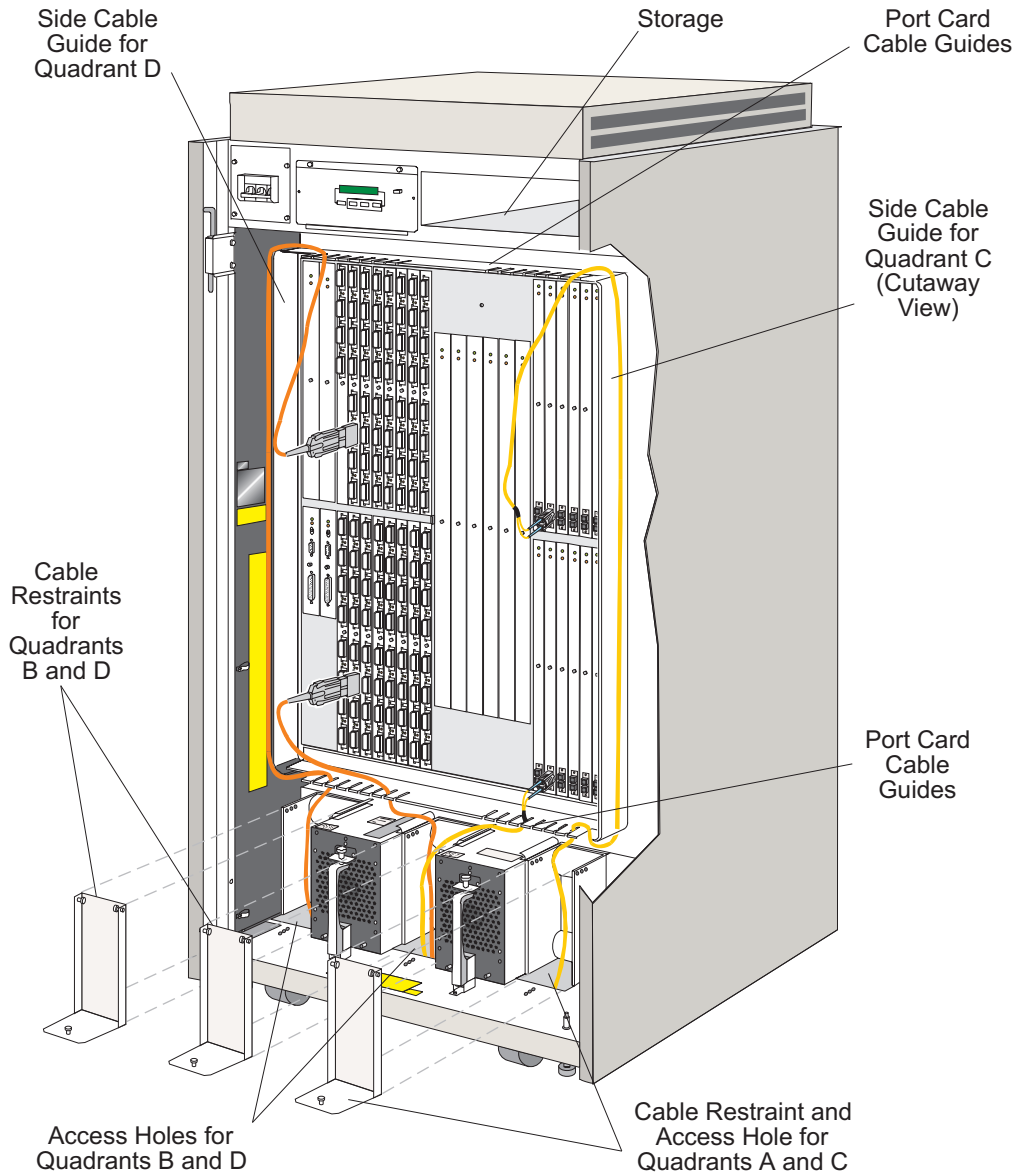

Figure 6-23. Director Cable Routing, Guide, and Restraint Areas
As shown in Figure 6-23, the Director contains four areas, or quadrants, for installing DVP cards. Eight port cards can be installed in areas A, B, and C, while seven port cards can be installed in area D. Four fiber optic cables can connect to each port card.
1. Remove the lower cable restraint cover for the port card area where you are installing cables (Figure 6-23).
- Route the cable to the port card area where the desired port is located. Refer to Figure 6-23.